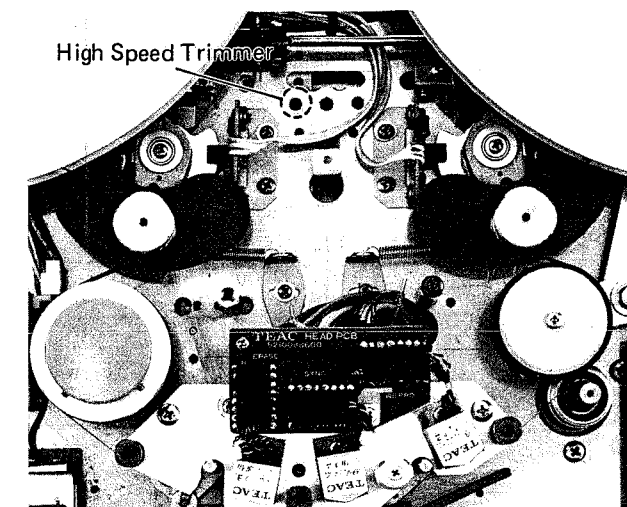

Fig. 7-24. Tape Speed Adjustment Trimmer
3. Play the middle of the test tape and adjust the high speed trimmer resistor found near the brake solenoid after opening the front panel (A) assembly until the frequency counter indicates a reading of 3,000 Hz. The right two trimmer resistors are not used. See Fig. 7-24. (CAUTION: Use an insulated screwdriver to prevent shorting).